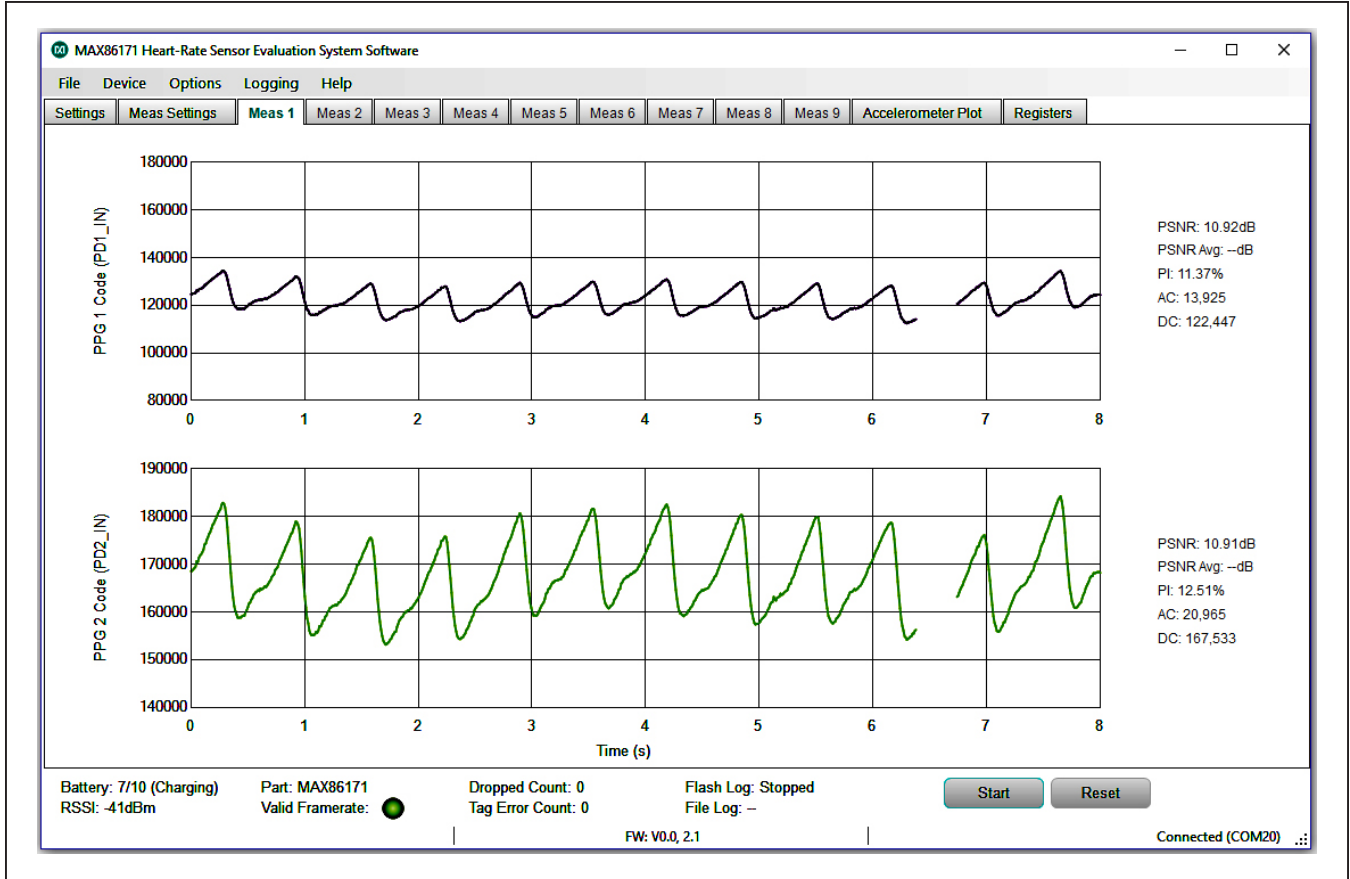
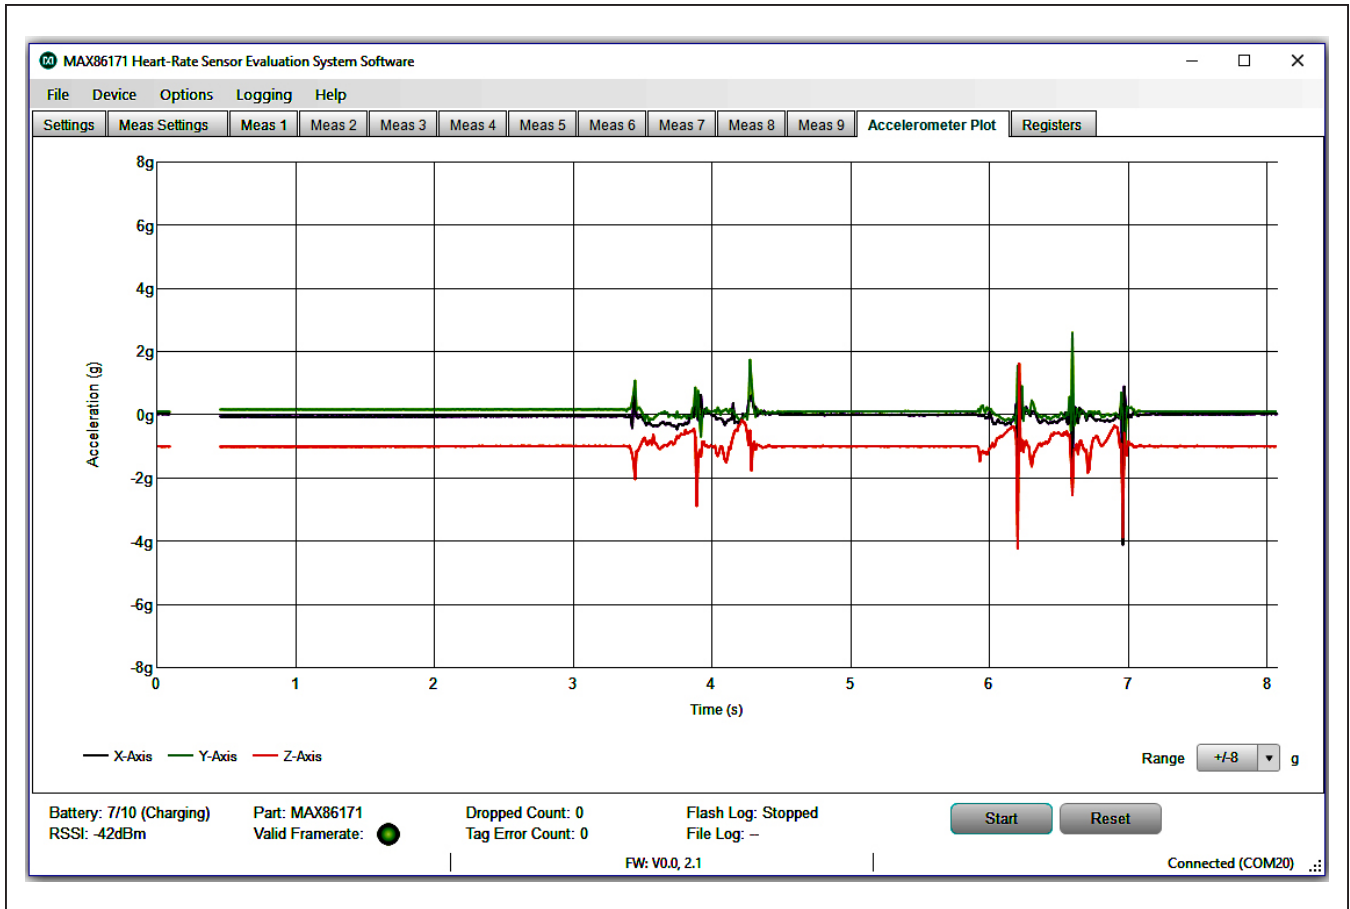

Figure 14. MAX86171 EV Sys GUI (PPG Plots)
Figure 15. MAX86171 EV Sys GUI (Accelerometer Plots)
- 10) When running, the LEDs on the Micro PCB should illuminate and the plots on the GUI should stream with data as shown in Figure 14 and Figure 15.
This enabled measurements sequence will repeat for each frame. Each Measurement if enabled will be plotted in the Meas x (x = 0...9) tabs respectively as shown in Figure 14.